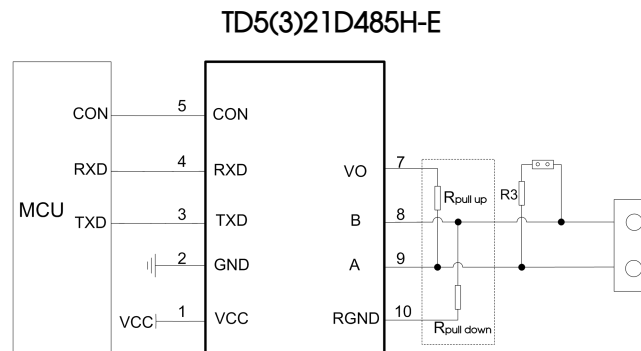

Fig.1
As shown in Figure 1, TD5 (3) 21D485H-E isolated transceiver module typical connection circuit, which TD521D485H-E module must use 5V power supply, the module TXD, RXD and CON pin interface matching level of 5V, does not support 3.3V system level, TD321D485H-E module must use 3.3V power supply, the module TXD, RXD and CON pin interface matching level of 3.3V, does not support 5V system level. R pull-up, R pull-down for the external reserve pull-down resistor, according to the actual situation to choose whether the need for external pull-down resistor. TD5 (3) 21D485H-E Isolated transceiver module has built-in 120kΩ pull-down resistor, under normal circumstances the use of internal pull-up, pull-down resistor to meet the demand.
As the module internal A / B line comes with ESD protection, so users generally apply to the environment in good circumstances without additional ESD protection devices, as shown in Figure 1, the typical connection circuit. But if the application environment is relatively poor) such as high voltage power, lightning and other environments), it is recommended that users must be in the module A / B line side plus TVS tube, common mode inductors, Gas discharge tube, shielded twisted pair or the same network single point Earth and other protective measures. Therefore, the recommended application circuit shown in Figure 2, the recommended parameters as shown in the table. Recommended circuit diagram and parameter values for reference only, according to the actual situation to determine whether the need for circuit diagram of the device and the appropriate parameter values.